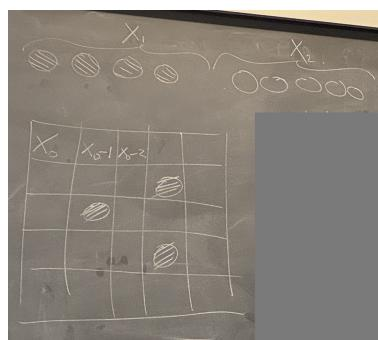

Figure 2.3: Configurations in mean field lattice theory.
- For example, each cell in a square lattice (Figure 2.3) has 4 nearest neighbors: One above, below, right, and left.
- As in Figure 2.3, we have to pick N adjacent sites.